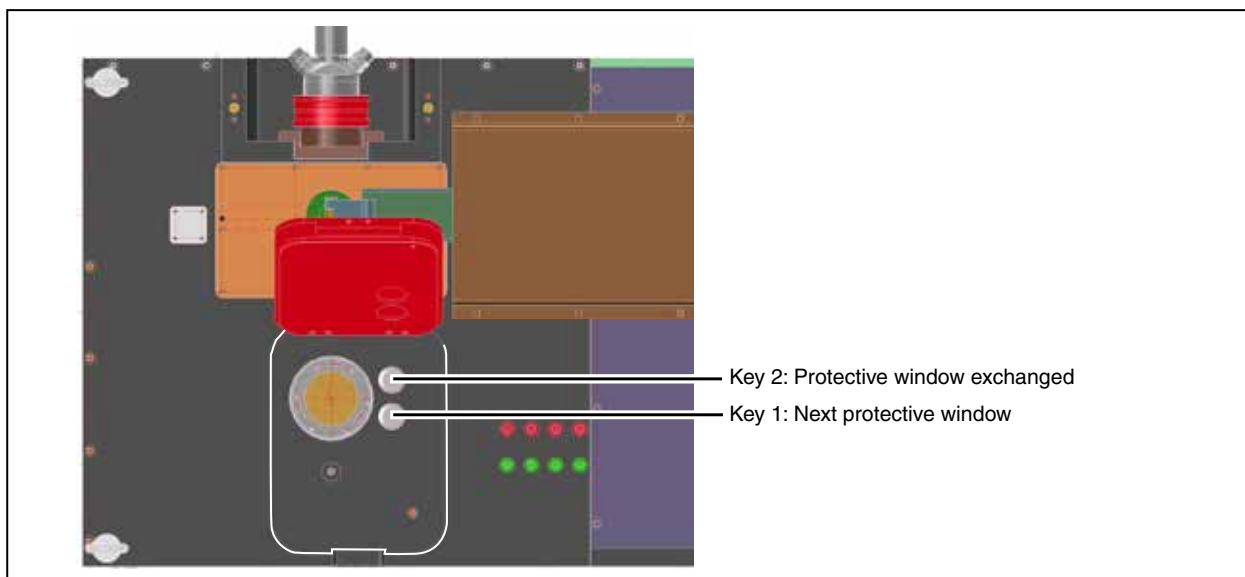

Fig.12.3: Function keys of the protective window exchanger
2. If needed, press key 1 "Next Protective Window" (please see Fig.12.3) until the desired protective window is positioned (the respective LED flashes fast).